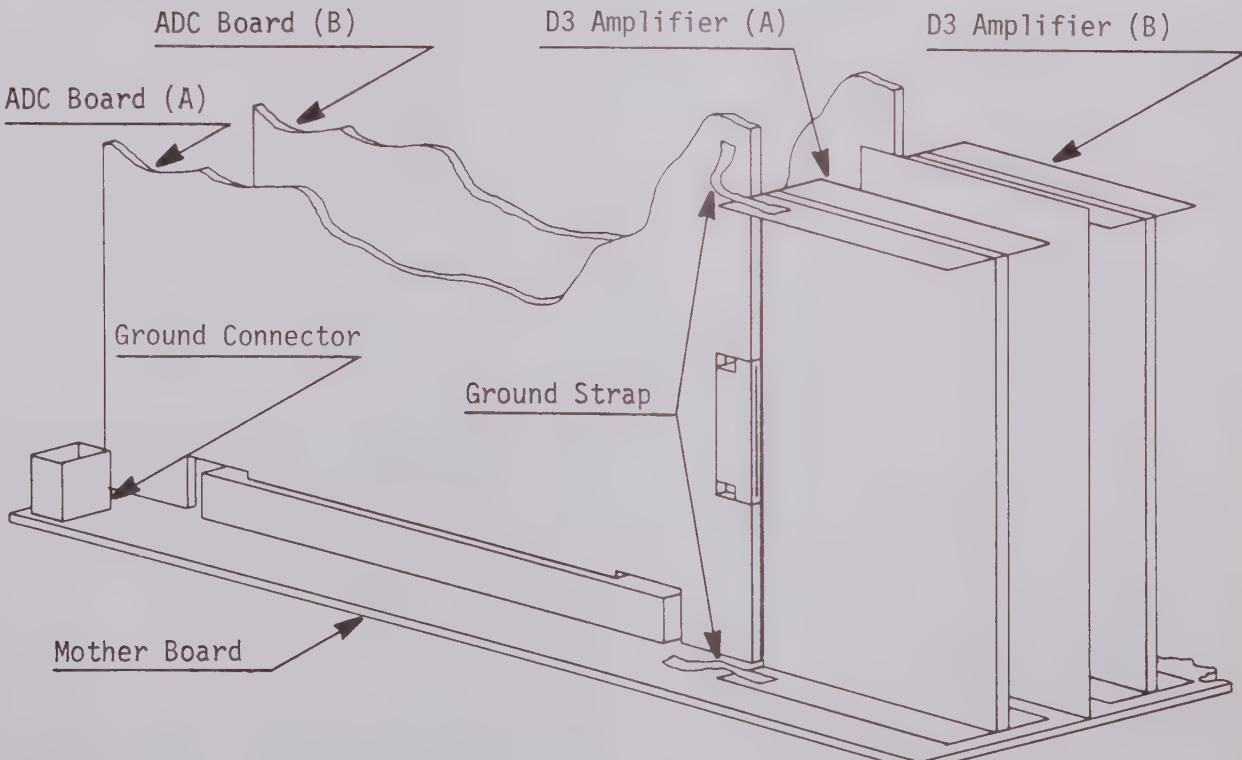

Figure 2
2. Unsolder the two ground straps from the Channel "A" D3 Amplifier shields. (See Figure 2.)
1. Unplug the Ground Connector. See Figure 2.